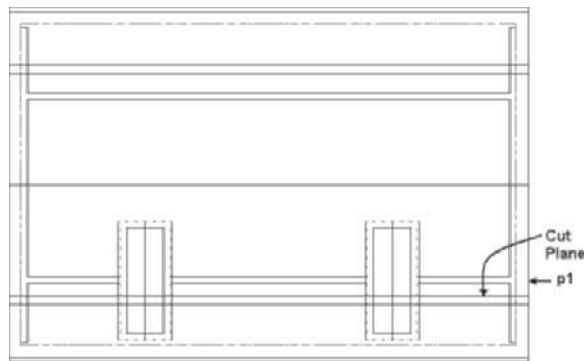

FIGURE 7.62 Selection of roof to edit display of cut plane (metric roof slab similar)
11. The cut plane lines are displayed on the roof slab since the roof slab was developed from a roof with a plate height equal to zero. To remove the cut plane lines from the main roof slab, select the front roof slab at p1 as shown in Figure 7.62 right-click, and choose **Properties**. Select the **Display** tab of the Properties palette. Set Display component = None and Display controlled by = Drawing default setting. Edit the Cut Plane section and set **Height** to **14' [4500]**. Move the cursor from the Properties palette and press ESC to end the edit.